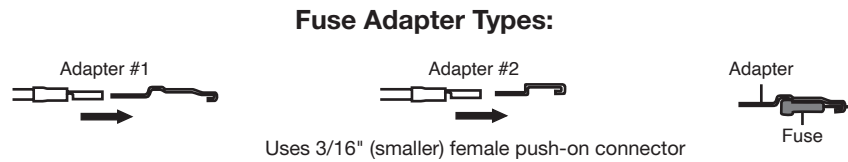

fig. 13
- ii. *Ground* - Crimp the yellow 3/8" (CC) or 1/4" (W) ring terminal to the black ground wire on the main harness. Attach the ring terminal to the ground battery post.
- i. *Ignition Wire* - Crimp the blue butt connector (X) to the pink ignition wire on the main harness. Crimp the other end to one of the ends of the black mini fuse holder (S). Apply heat to the butt connector to seal it.
- ii. Determine the correct fuse adapter type (Fig. 13) for your selected fuse and install the fuse into the adapter (BB or AA), then install the fuse back into the fuse box. Connect the end of the fuse holder with the female push-on connector (Y or Z) onto the adapter. If you have the standard ATC type fuses, use adapter #1 (BB). Many late-model vehicles use a smaller mini-type fuse requiring adapter #2 (AA). If you use adapter #1, you will need to crimp on a 1/4" (14-16GA) female connector (Z) supplied in kit. If you use adapter #2, you will need to crimp on a 3/16" (14-16GA) female connector (Y) supplied in the kit. Connection to the fuse terminal will depend on what type of fuse your vehicle uses.
1. Attach a supplied female push-on connector to the other end of the fuse holder using the correct size for the needed adapter (Fig. 13).